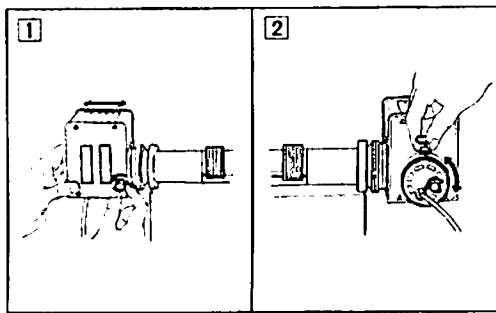

Fig. 4
- ① Push in the optical-path change-over knob for brightfield illumination.
- ② Change over the dia/epi illumination change-over switch on the microscope base to EPI.
- ③ Connect the power source cord to the AC power source, turn the brightness control dial (including power switch) to ON to light the lamp of the illuminator, and set the scale on the dial to 8. (The middle of the white figure 4 and engraved figure 8 is faced to the index on the microscope base.)
- ④ If the Nomarski prism, polarizer, analyzer and tint-plate sliders are in the optical path, pull them all out. (Refer to p.21~24-2.)
- ⑤ Fully open the aperture diaphragm.
- ⑥ Place a high reflection wafer on the stage, and swing in the objective 10×. (ND 16 filter may be used in place of the wafer.)
- ⑦ Focus on the wafer. For facilitating the focusing, close the field diaphragm and obtain the clear image of the diaphragm.
- ⑧ Draw out an eyepiece from either of the observation tubes on the trinocular eyepiece tube. Look into the tube, and the image of the exit pupil of the objective will be visible as a bright circle, together with the surface of the diffuser built in the illuminator.
(Fig. 4)
- ① Change over the dia/epi illumination change-over switch to DIA.
- ② Connect the power source cord to the AC power source, turn the brightness control dial (including power switch) to ON to light the lamp of the illuminator, and set the scale on the dial to white figure 4.
The middle of the white figure 4 and engraved figure 8 is faced to the index on the microscope base.
- ② Connect the power source cord of the microscope base and that of the transformer to the AC power source, respectively.
- ③ Set the scale on the brightness control dial on the microscope base to white figure 4, and voltage meter on the transformer to 6V or so.
①
②
- ① Push in the optical-path change-over knob to the limit and make sure of the brightfield illumination, indication "B. F."
- ③ If the polarizer, analyzer and tint-plate are in the optical path, pull them all out.